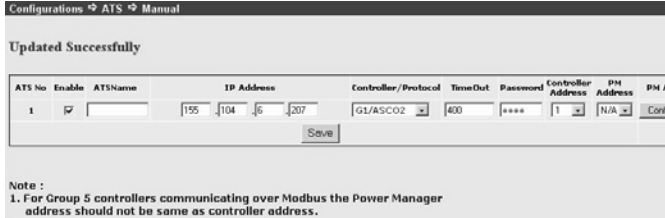

Figure 20: Updated Successfully screen
Modbus Notes: The password entered (Figure 20) for the ATS must be the same as the password set in that ATS’s Group 5 controller. Transfer control from the ATS Remote Annunciator wil not function without the proper password. Refer to User’s Guide 381333-126.
- When the ATS configuration is made, click **Save** to upload the configuration to the ATS Remote Annunciator. An *Uploaded Successfully* screen should appear. See Figure 20. The ATS Remote Annunciator should now be monitoring the ATS (observe the status lights).
- Be sure that a *PM Address* has been set (Figure 19). Then click the **Configure** button (Figure 20) next to *PM Address*.
- Click the **Save** button to save all configurations to the ATS Remote Annunciator. See Figure 20.